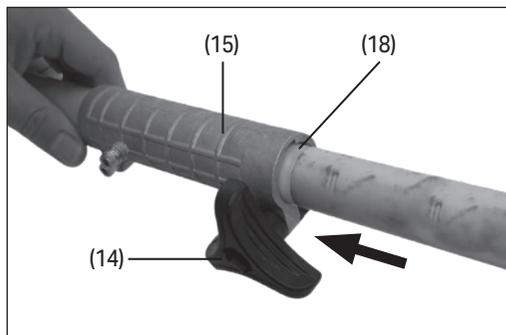

Fig.7
- Ensure the engine is switched off, then hold the shaft nut with the open spanner (35). Then unscrew the spool assembly from the trimmer shaft by turning anticlockwise by hand.
6.3 Connecting and Changing the Attachments (Fig.7)